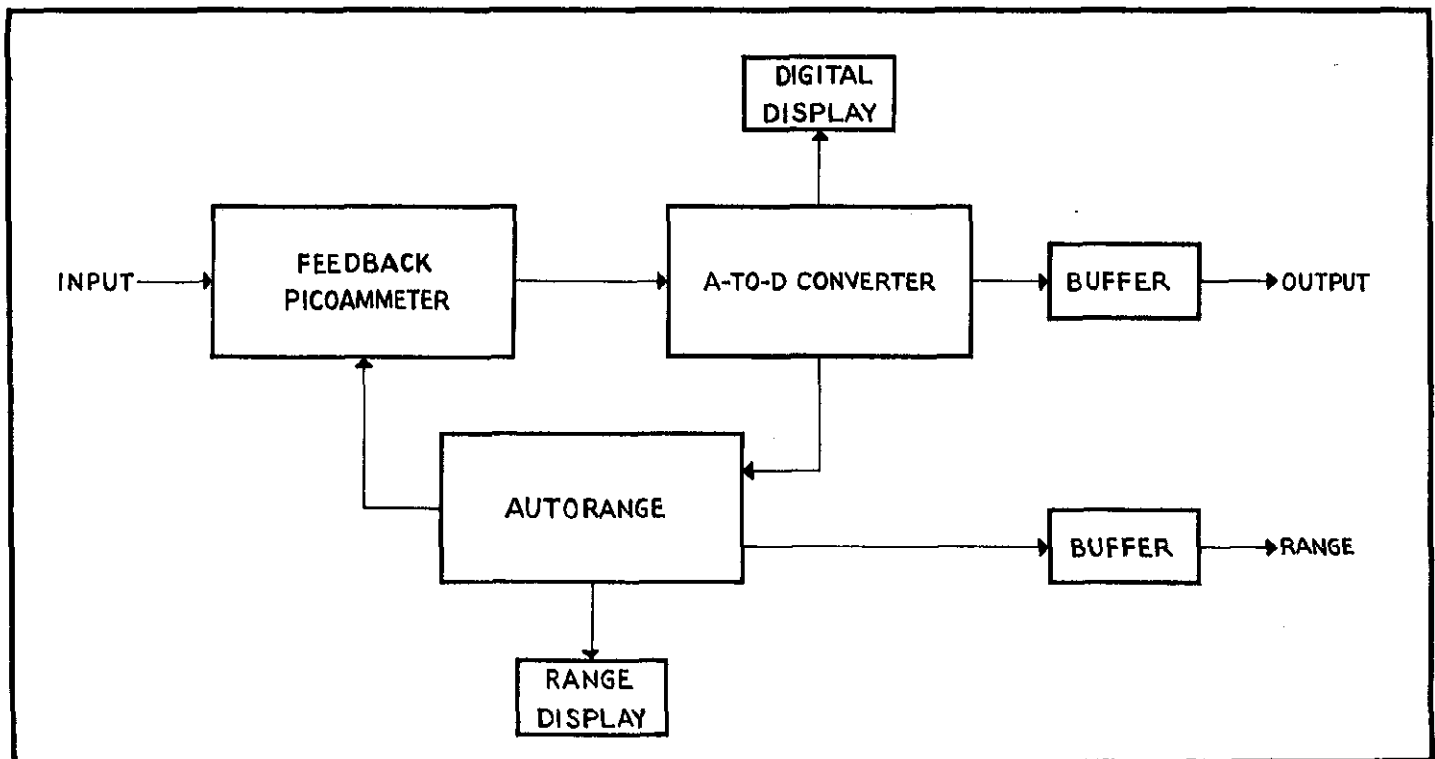

FIGURE 11. Overall Block Diagram.
b. Circuitry. The amplifier input stage is a pair of insulated-gate, field-effect transistors (IGFET) designated Q1201 and Q1202 connected in a differential configuration. The circuit designated 23430B is a special overload protection circuit on the Input FET board. The gate of Q1201 is connected to the input through 10 Megohms while the gate of Q1202 is referenced to ground. Potentiometer R1238 is an internal COARSE ZERO adjustment. Potentiometer R1202 is an internal BALANCE control. Transistors Q1203-Q1204 form a second differential amplifier stage. Potentiometer R1207 is a front panel ZERO adjustment. Transistors Q1205 and Q1206 (emitter-follower) provide sufficient gain for the analog output and A/D converter. The analog output is connected through R614 (499Ω) to the dc amplifier output (the junction of R1215 and D1212). The full scale current sensitivity is determined by the RANGE resistor connected across the feedback. The RANGE resistance R_F is composed of a fixed resistance R_1 plus a calibration adjustment resistance R_2 as shown in Figure 11. The RANGE resistors are arranged in "parallel" such that, on the "10⁻²" range, all eight RANGE resistors are connected. Range selection and zero check are performed using reed relays which are electrostatically shielded from the high impedance circuitry to prevent coupling of switching transients. The FILTER Switch (S1201) provides additional damping on the 10⁻⁷, 10⁻⁸, and 10⁻⁹ ampere ranges with an additional 40 dB rejection of 60 Hz frequency. With the FILTER Switch set to "IN", the A/D conversion rate is set to 1 reading per second maximum.